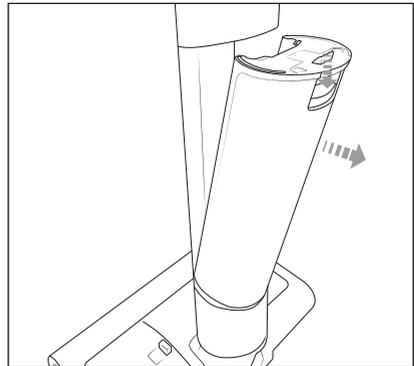

Fig. 5
- 2) Press down the release button **5** of the fresh water tank **6** and pull the fresh water tank **6** out of the appliance (see Fig. 5).